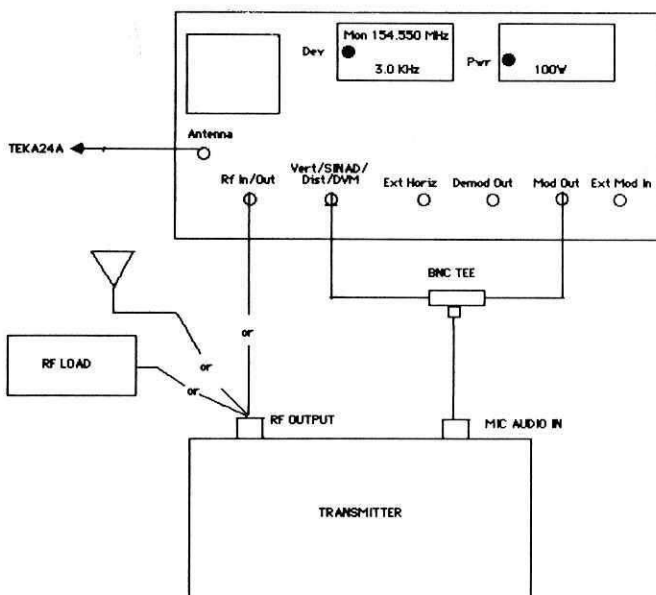

FIGURE 5.6—TRANSMITTER TESTS SETUP
- Connect the service monitor's "RF In/Out" port to the RF output of the unit under test and make the other connections as shown in figure 5.6.
- Operate the transmitter under test either into its own antenna or into a dummy RF load, as shown in figure 5.6.
1. Referring to Figure 5.6, insert a fixed power attenuator between the RF output connector of the transmitter and the "Antenna" port of the R-2400. The power rating of this attenuator must be at least equal to the rating of the transmitter, and a minimum of 30 dB attenuation. The **input power** to the antenna port **must not exceed 0.5 watt**.